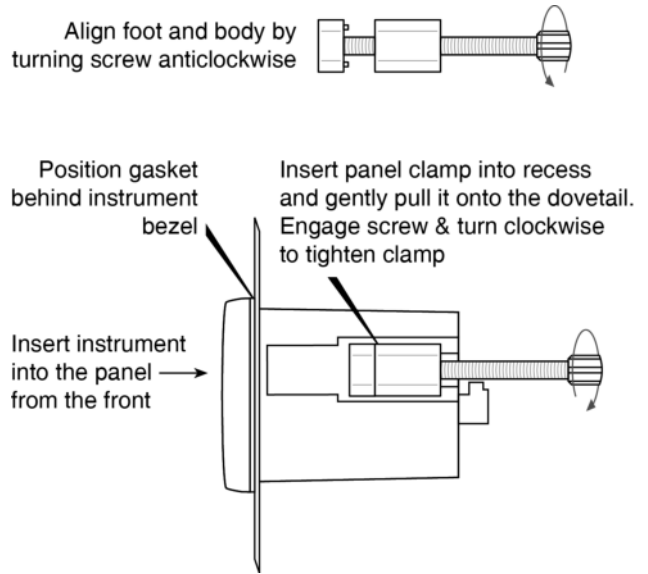

Fig 4 Fitting panel mounting clamps
- Place a clamp in the recess on each side of the Set Point Station, pulling gently to slide it onto the dovetail as shown in Fig 4. Push the knurled screw slightly forward to engage the thread and tighten by turning clockwise until it is just finger tight. When both clamps are fitted ensure that the gasket behind the front panel bezel is correctly positioned before fully tightening the clamps to secure the instrument. The maximum recommended clamp tightening torque is 22cNm (1.95 lbf in) which is approximately equivalent to finger-tight plus one half turn. **Do not over tighten.**